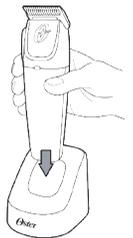

Figure 1
3. Ensure that the switch on the unit is in the «OFF» (0) position.
5. Insert the trimmer into the charging stand so that the top of unit is facing you and the contacts on the trimmer are aligned with the contacts on the charging stand. The top of the unit is the side with the switch (Figure 1).